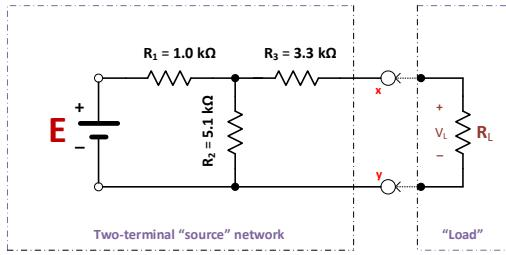
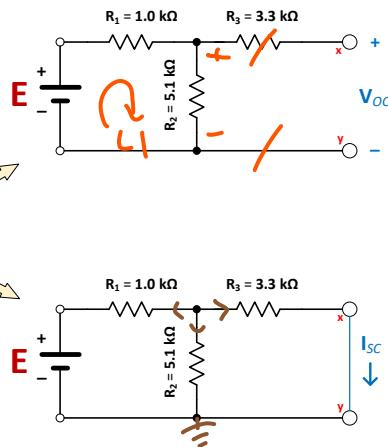
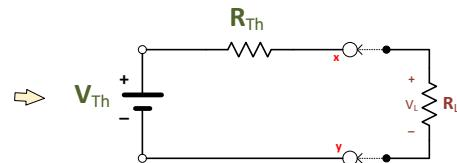
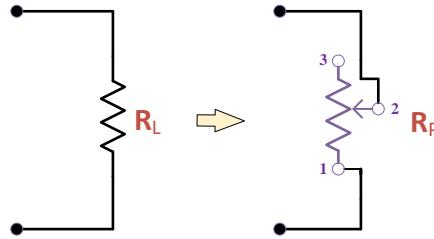

Figure 2.0a: Original Circuit
Figure 2.0b: In-circuit measurements for V_{Th} and R_{Th}
Figure 2.0c: Thevenin Equivalent Circuit
Figure 2.0d: Load, R_L replaced with potentiometer, R_P
(i) For the circuit shown in **Figures 2.0a** and **2.0b**, consider the input D.C. source voltage, $E = 10 \text{ V}$.
(1) Determine the Thevenin's equivalent circuit of the two-terminal source network in **Figure 2.0a** by finding the Thevenin voltage, V_{Th} and the Thevenin resistor, R_{Th} as shown in **Figure 2.0c**; (2) referring to circuits in **Figure 2.0b**, use either nodal-voltage or mesh-current technique to find the respective open-circuit voltage, V_{oc} and short-circuit current, I_{sc} ; and (3) use the Thevenin equivalent circuit model in **Figure 2.0c** to show that $V_{Th} = V_{oc}$, and $R_{Th} = V_{oc}/I_{sc}$. Show all your analysis below, and record your results in **Table 2.0**.
(ii) Construct the circuits of **Figure 2.0b** in MultiSIM, and measure corresponding open-circuit voltage, V_{oc} and short-circuit current, I_{sc} ; and then determine V_{Th} and R_{Th} from these values. Record your results in **Table 2.0**.
Consider the circuit in **Figure 2.0c**.
- (iii) Construct the circuit of **Figure 2.0a** in MultiSIM but use the **5 kΩ** potentiometer, R_P as the variable load resistance, R_L illustrated below in **Figure 2.0d**. Set the input D.C. source voltage, E to **10V**. Monitor the load voltage, V_L across R_P with the DMM Voltmeter. Adjust the potentiometer until this output voltage, $V_L = V_{Th}/2$, at which point theoretically the maximum power transfer should occur per the theorem (note: refer your earlier Pre-Lab analysis for the V_{Th} value). Record your measured values of V_L and R_L in **Table 3.0**.
Implement the respective circuits in **Figure 2.0b** on your breadboard using the resistor values as shown. Set the input D.C. source voltage, **E** to **10V**. Turn OFF the power supply.
2. For the circuit at the top in **Figure 2.0b**, use the DMM Voltmeter to measure the open-circuit voltage, V_{oc} between the open-circuit terminals “x” and “y”. Record your result in **Table 5.0** below.
3. For the circuit at the bottom in **Figure 2.0b**, use the DMM Ammeter to measure the short-circuit current, I_{sc} through the short-circuit wire between terminals “x” and “y”. Record your result in **Table 5.0** below.
Table 5.0: Experimental results of the Figure 2.0b circuits
Implement the circuit of **Figure 2.0a** in MultiSIM; set the input D.C. source voltage, **E** to **10V**, and use a potentiometer as the variable load resistance, **R_L**.
2. Locate a **5kΩ potentiometer** (**R_P**) in your Kit and connect it as illustrated in **Figure 2.0d** and keep track of the potentiometer terminals as wired to the circuit.
7. Remove the potentiometer off the breadboard, and use the DMM to measure the resultant resistance value between potentiometer terminal “1” and “2” (per **Figure 2.0d**). Record this resistance value as **R_L** in **Table 6.0** below.